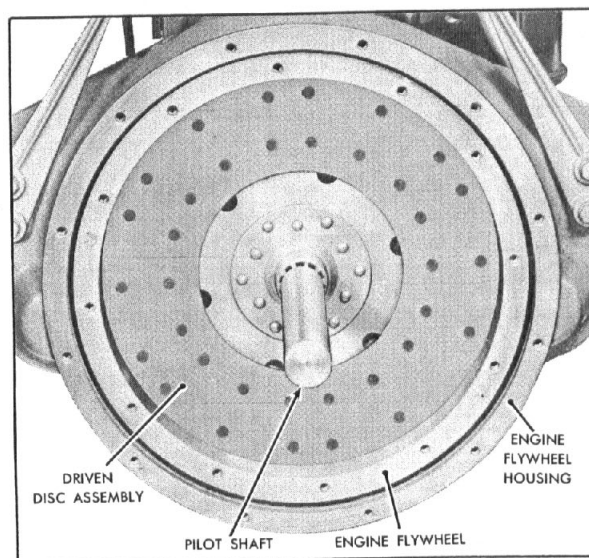

Fig. 16 - Use of Pilot Shaft in Installing Clutch.
(1) Try cover assembly in flywheel before inserting driven disc assembly, so as to make sure it is a free fit in the flywheel.
(2) Install driven disc assembly in the engine flywheel making sure long end of hub faces clutch cover assembly. To facilitate the assembly of the transmission to the engine the use of a spare splined pilot shaft (Fig. 16) to align the driven disc assembly while bolting the clutch in place is essential. The side of the clutch driven disc assembly that faces the clutch pressure plate, has a chamfer on the end of the splined hub to facilitate the insertion of the transmission drive shaft.
(3) Bolt the clutch assembly to the flywheel and screw in each bolt until it contacts cover plate assembly. Then gradually tighten opposite bolts until assembly is drawn tight and completely into flywheel.
(4) Remove (3) hold down bolts previously installed.